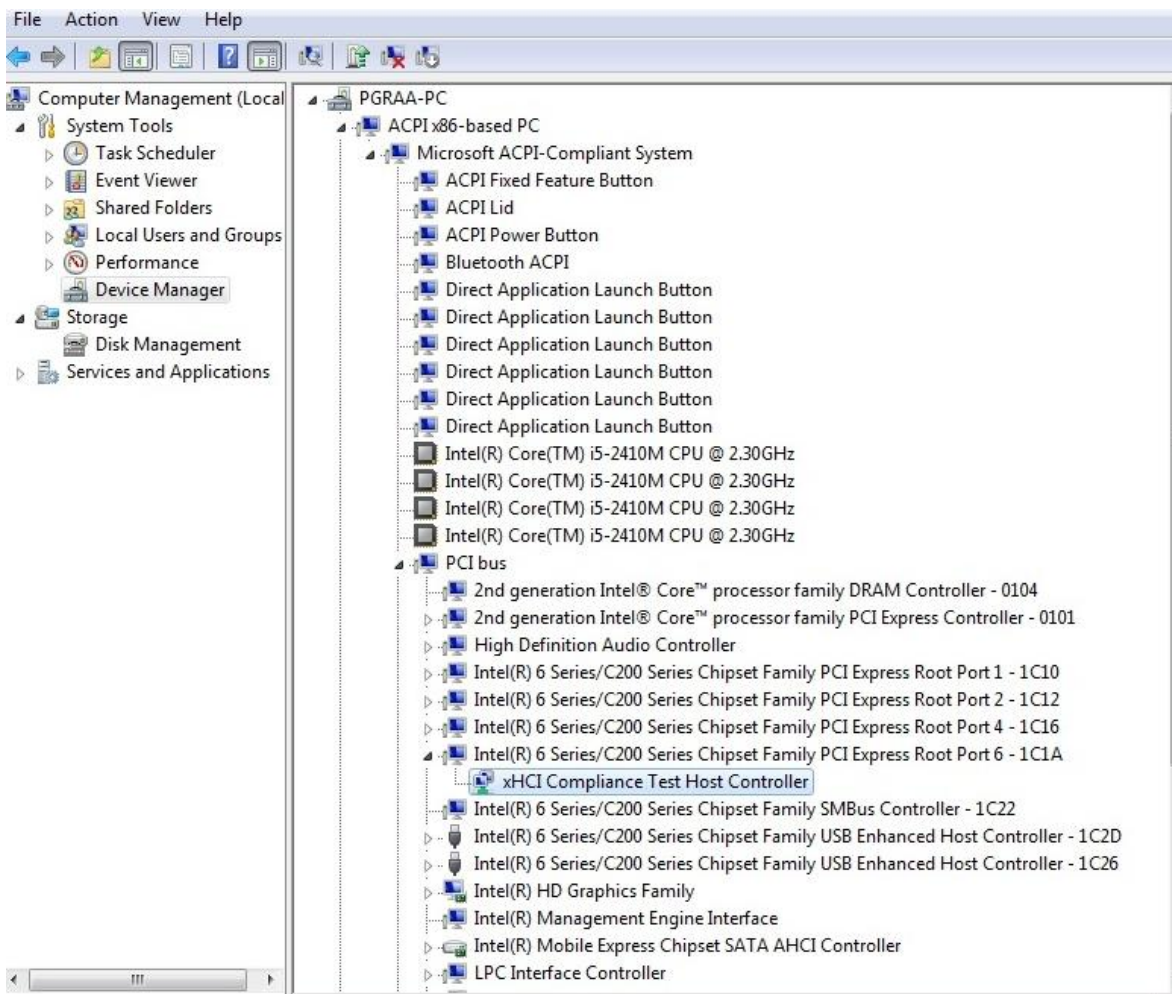

Figure 6.5.3.1: xHCI Compliance Driver
4. Navigate to the Device Manager and View Devices by connection to confirm proper installation of the xHCI Controller as shown in Figure 6.5.3.1.
- d. Navigate to the Device Manager and View Devices by connection to confirm proper installation of the xHCI Controller as shown previously in Figure 6.5.3.1.